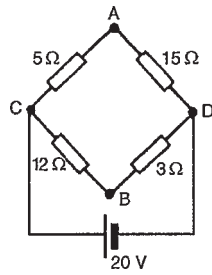

Figure 13.34
- (vii) To find the voltage across AB in Fig. 13.34: Since the $20\ \text{V}$ supply is across the $5\ \Omega$ and $15\ \Omega$ resistors in series then, by voltage division, the voltage drop across AC,